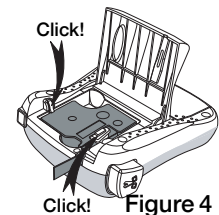

Figure 4
- 3 Press firmly until cassette clicks into place. See Figure 4.